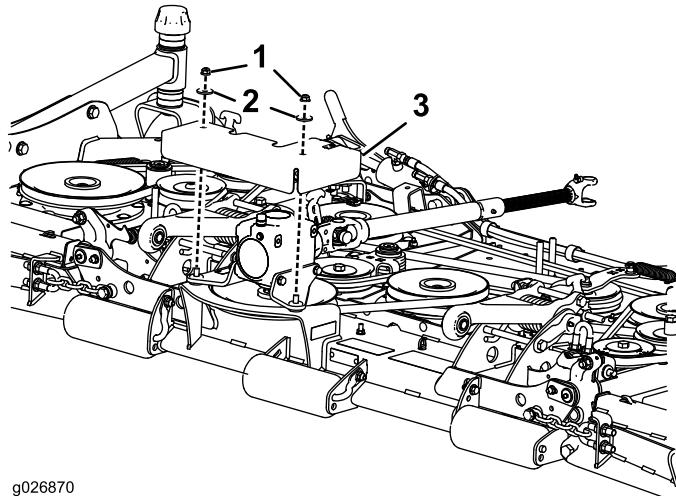

Figure 2
2. Remove the 2 nuts and 2 washers on the gearbox mount and install the pulley shield onto the cutting unit (Figure 2).